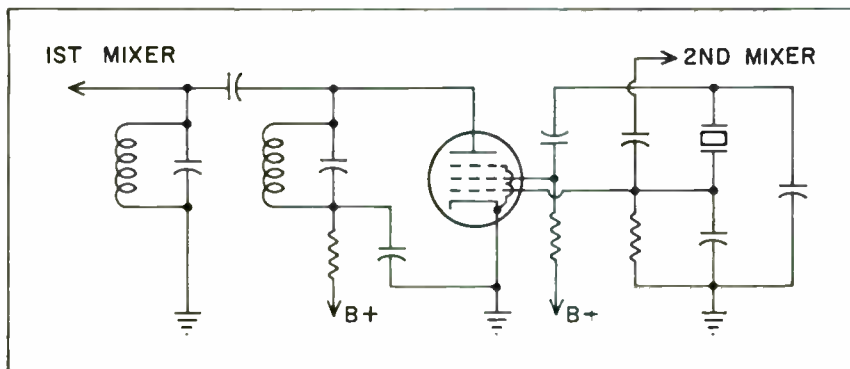

Fig. 2—Basic circuit of single-crystal controlled oscillator employed in some 2-way receivers to generate both first and second i-f signals.
scene as an average of all its a-c signals, which is zero. This is true because all a-c signals alternate above and below a zero reference level. Consequently, after passing through the capacitor, the two scenes shown in Fig. 1 may appear like those shown in Fig. 2.
Although both of the original televised scenes of Fig. 1 have been reduced to the same average level, the sync pulse of the originally brighter scene acquires a greater amplitude than that of the dark scene as can be seen in Fig. 2.
Fig. 2 (A)—Little difference may be noted between the normal clamped signal and one which floats without restoration when video amplitude is high. (B)—Small video signals also average on a zero axis producing a more noticeable loss of reference.
An inexpensive step-down transformer, T-2, rated at only 190 v/a, was added to the circuit, as illustrated in Fig. 2. The secondaries of T-2, after being paralleled, are placed in series with one leg of T-1. Here is how it works:
Fig. 2—A low-current step-down transformer, T-2, was added to this circuit to obtain proper voltage from T-1 for accurately controlling color temperature of lamps in lithographing plant.
Since the first oscillator crystal fundamental frequency is too low to develop the first i-f signal, a harmonic of the crystal is used for this purpose. Some receivers employ one crystal to develop both first and second i-f signals. While a harmonic is used for the first i-f, the crystal fundamental is utilized to develop the second i-f. (See Fig. 2). This method has proven reliable. When two separate crystal controlled oscillators are used, the second oscillator crystal fundamental beats with the first i-f signal in the second mixer to produce the second i-f signal.